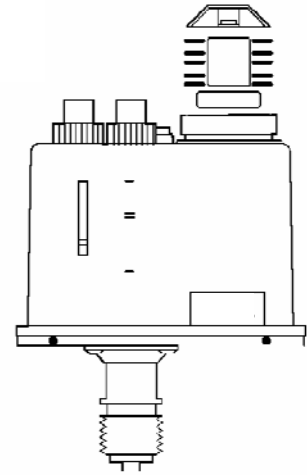

Fig. 5
2.1.3 SAFETY PRESSURE SWITCH (Fig. 5)